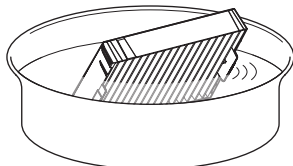

Fig. 1
1) Remove the air filter cover. (Fig. 1)
1) Wash the air filter unit. (Fig. 1)